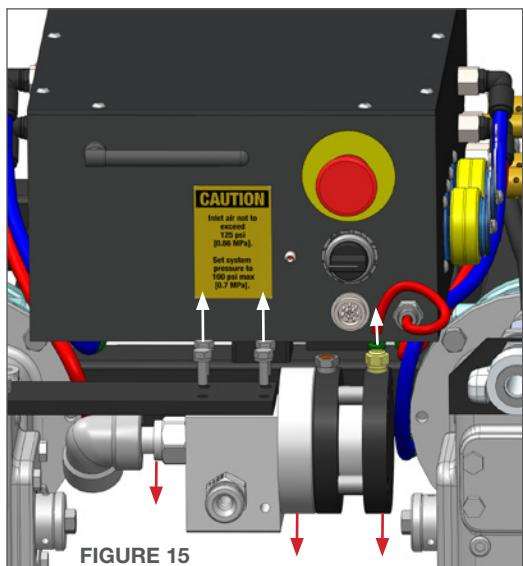

FIGURE 15
15. Remove and retain the four 1/4" hex bolts and washers from the mounting plate. Depress the presslock fitting to release the red tubing. (**Figure 15**)